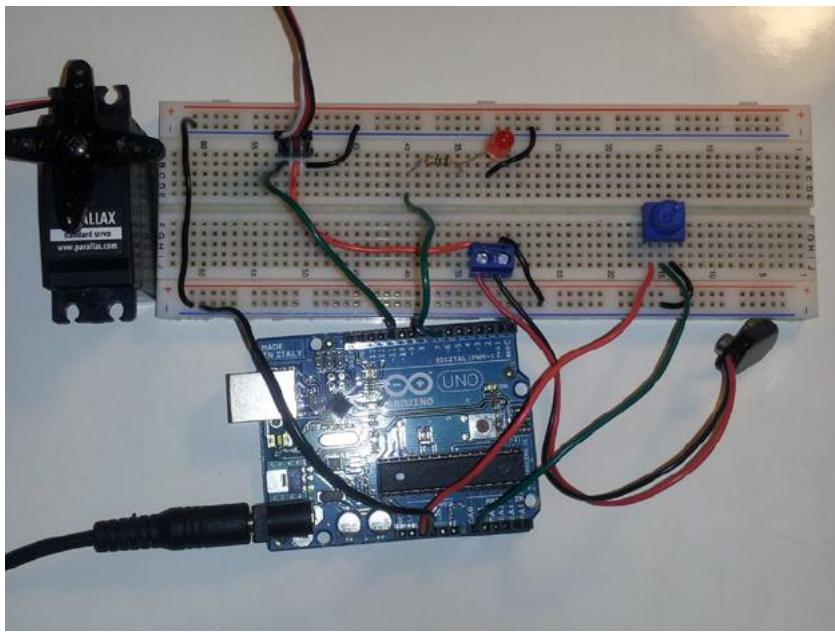

Figure 23-17. The finished circuit
16. And that's it! The Challenge 6 gizmo is completed, and Figure 23-17 shows how the final circuit should look.